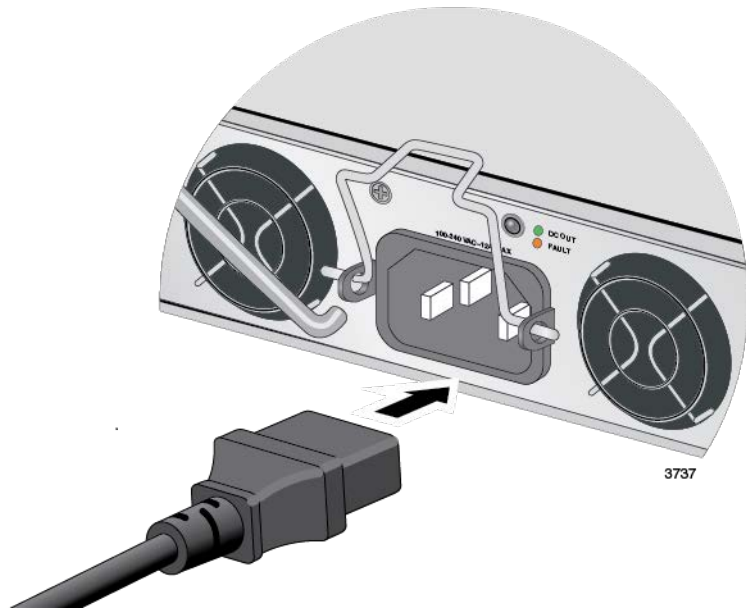

Figure 60. Connecting the AC Power Cord
2. Connect the AC power cord to the connector on the power supply and to an appropriate power source. Refer to Figure 60.